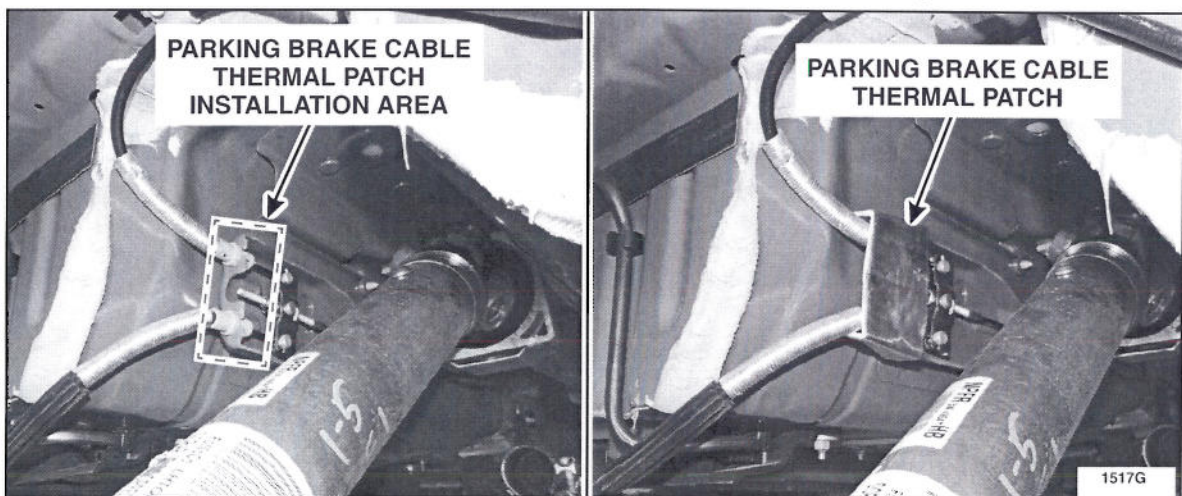

FIGURE 7
9. Apply *new* thermal patch over the parking brake cable retention collars. See Figure 7.